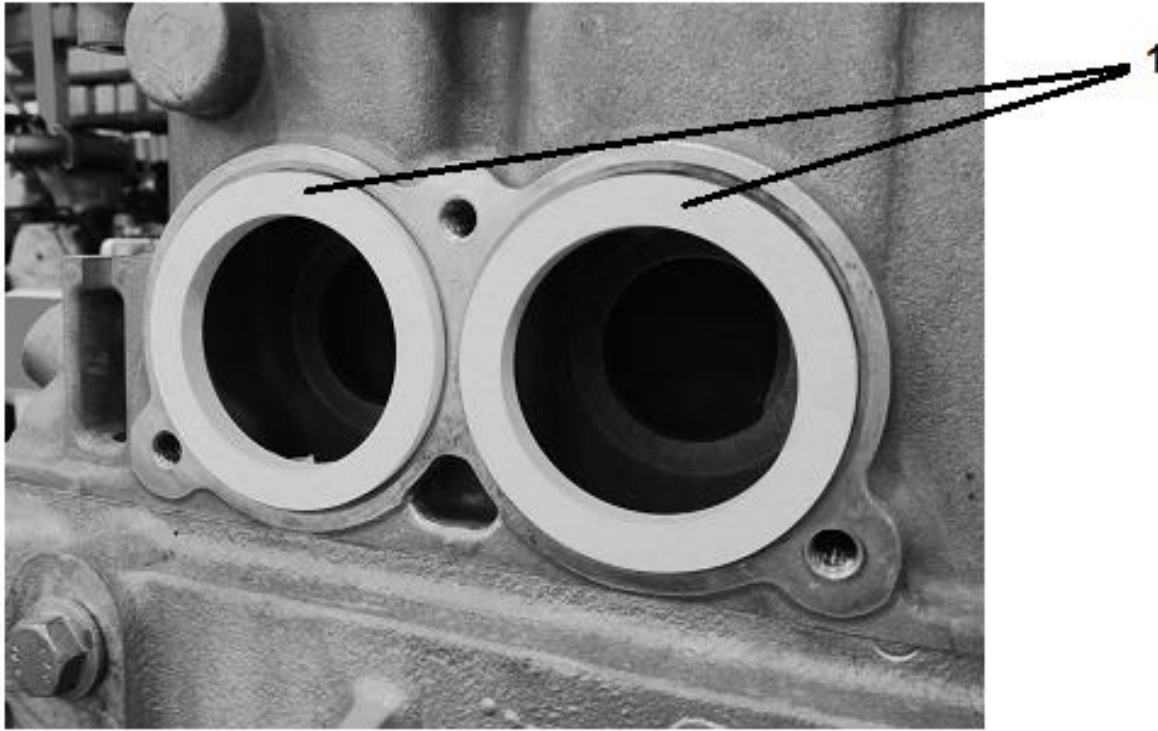

Figure 5: Gasket Installation
7. Install two rubber gaskets (**Figure 5**, Item 1) and re-install thermostat housing (**Figure 4**, Item 2) and radiator hoses